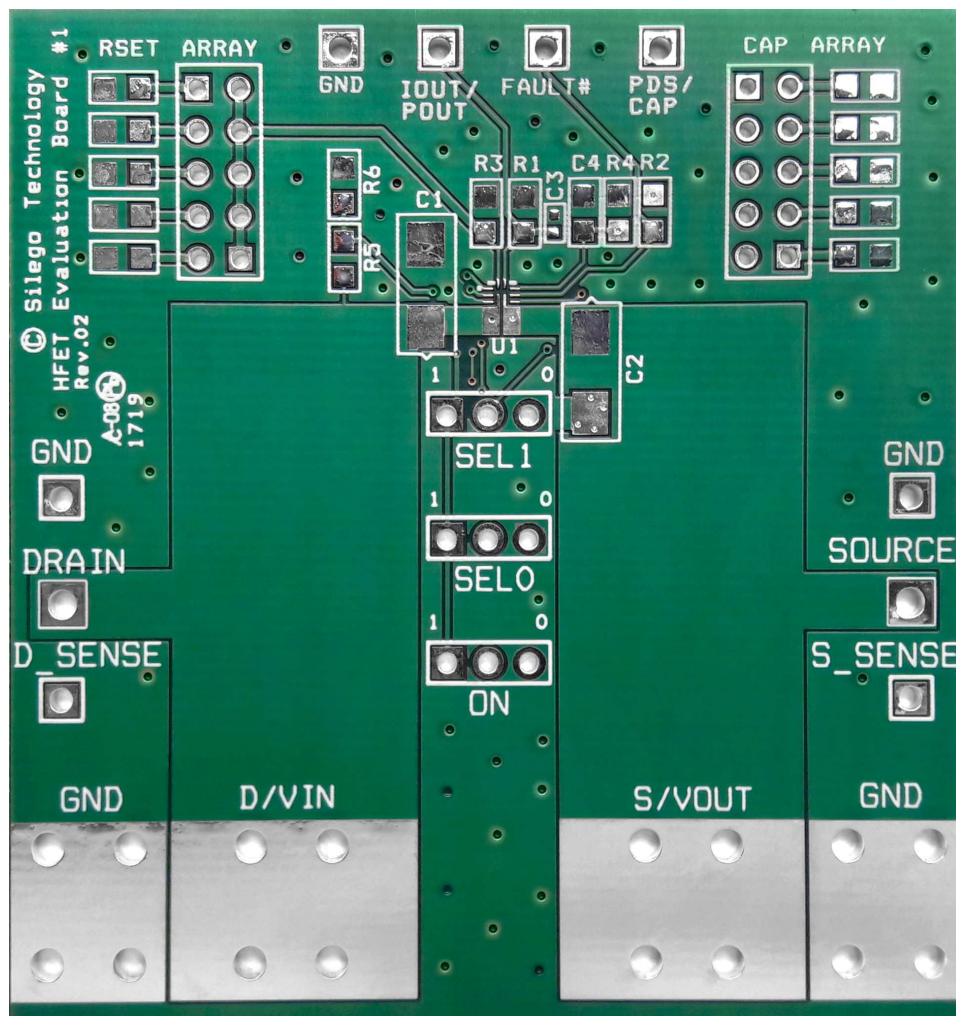

Figure 19. SLG59H1127V Evaluation Board
1. Since the VIN and VOUT pins dissipate most of the heat generated during high-load current operation, it is highly recommended to make power traces as short, direct, and wide as possible. A good practice is to make power traces with absolute minimum widths of 15 mils (0.381 mm) per Ampere. A representative layout, shown in Figure 19, illustrates proper techniques for heat to transfer as efficiently as possible out of the device;
A High Voltage GreenFET Evaluation Board for SLG59H1127V is designed according to the statements above and is illustrated on Figure 19. Please note that evaluation board has D\_Sense and S\_Sense pads. They cannot carry high currents and dedicated only for  $RDS_{ON}$  evaluation.